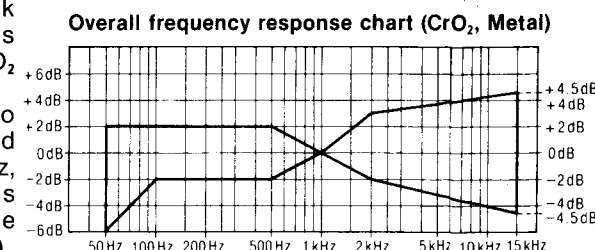

Fig. 14
- Change test tape to CrO₂ reference blank test tape (QZZCRX), and record 1kHz, 50Hz, 100Hz, 200Hz, 500Hz, 4kHz, 8kHz, 10kHz and 15kHz signals. Then, playback the signals and check if the curve is within the limits shown in the overall frequency response chart for CrO₂ tapes (fig. 14).
- Place UNIT into metal tape mode and change test tape to metal reference blank test tape (QZZCRZ), and record 1kHz, 50Hz, 100Hz, 200Hz, 500Hz, 4kHz, 8kHz, 10kHz, 12.5kHz and 15kHz signals. Then, playback the signals and check if the curve is within the limits shown in the overall frequency response chart for metal tapes (fig. 14).